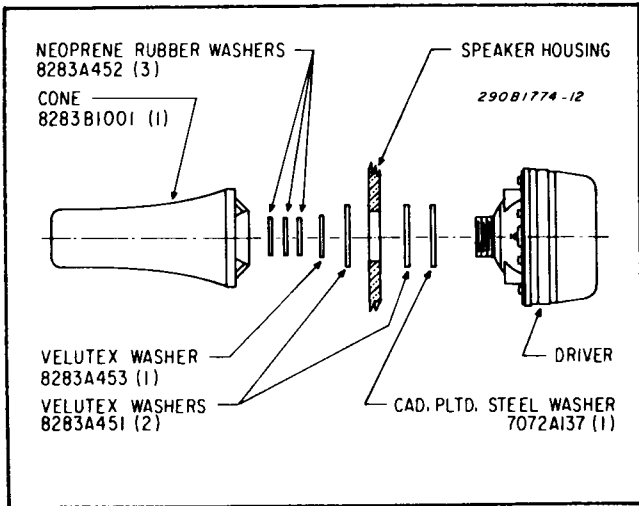

Figure 8. Speaker Driver and Cone Replacement.
To replace the speaker driver and cone, proceed as follows (see Figure 8):
7. Reinstall the driver. Ensure that washers are installed correctly (see Figure 8). Reconnect the driver lead wires to the light assembly feed wires. Secure connections with wirenuts.
8. Reinstall cone. Ensure that washers are installed correctly (see Figure 8).